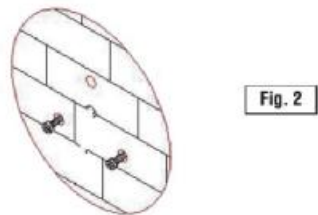

Fig. 2
3. Insert two screws (provided) into the two lower-most mounting hole locations, as shown in Fig.2. Do not tighten the screws fully.